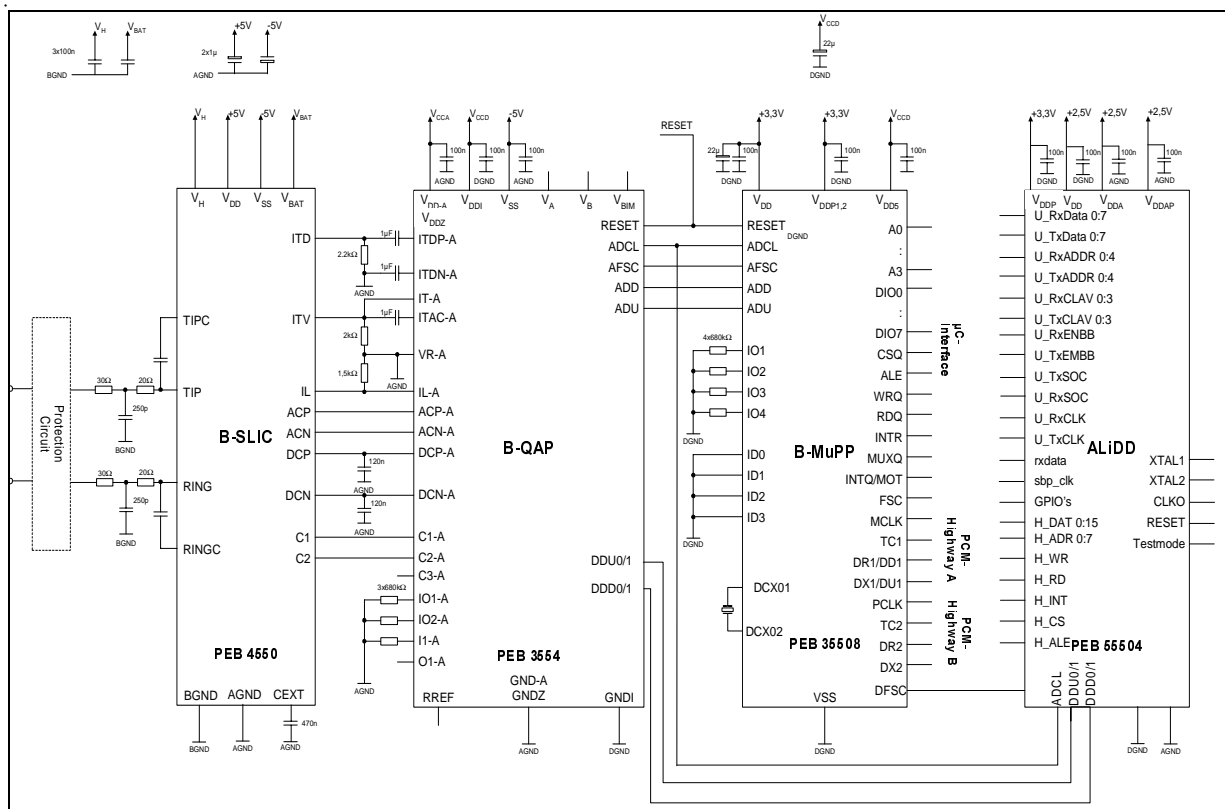

Figure 5-1 Application Circuit
- 5.1 Typical Application Circuit (Figure 5-1)